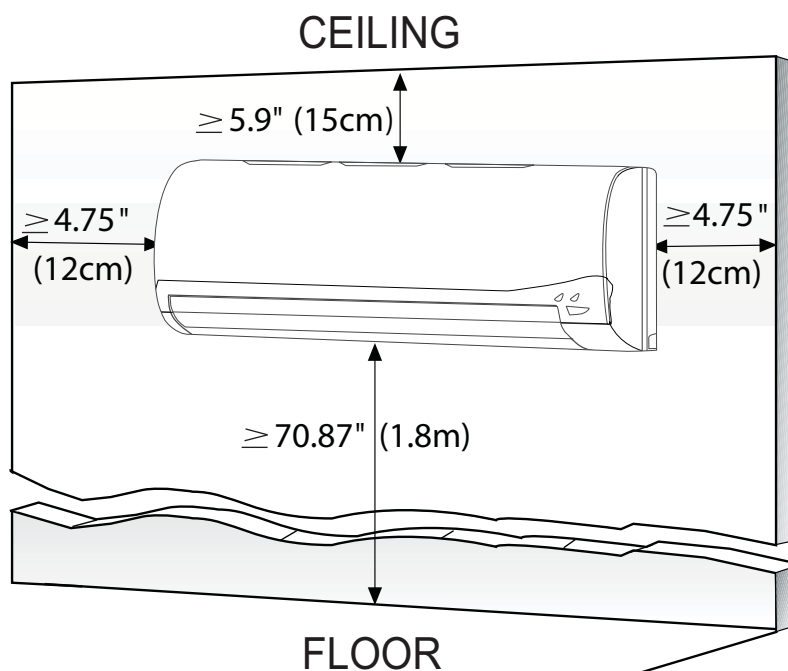

Fig. 4 – Indoor Unit Clearances
**Clearance** - Provide adequate clearance for airflow (see Fig. 4).